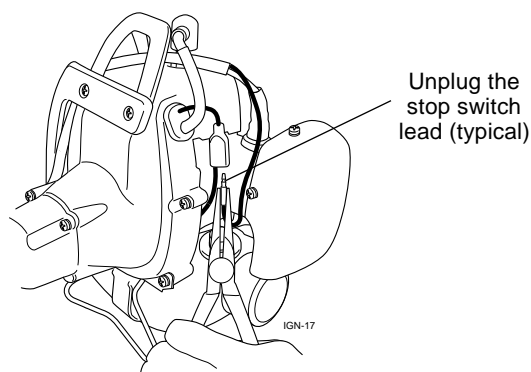

Figure 5.9 Disconnecting the stop switch.
- Make sure the ignition stop switch is in the “on” position, or disconnect the switch as shown in Figure 5.9.
(Figures 5.9 and 5.10).